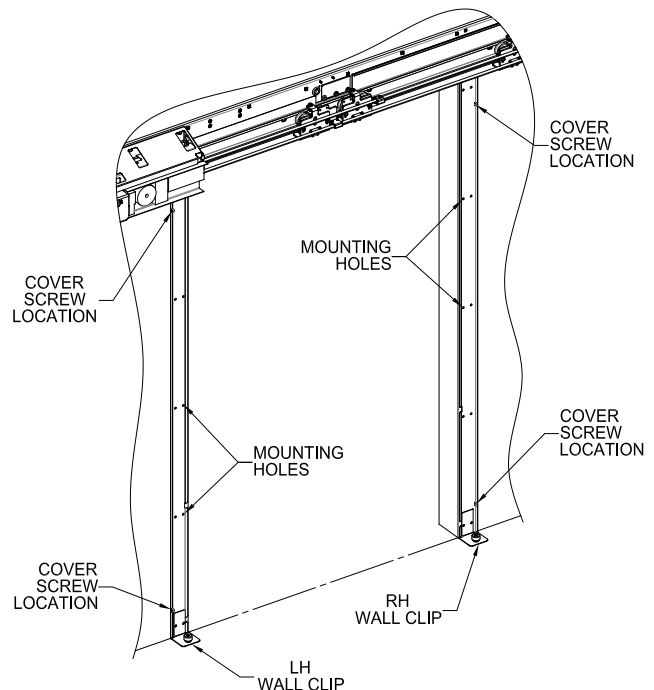

Figure 18: Positioning the Header
3. For a right hand slide, position the left edge of the header (w/o shroud) flush with the left edge of the lead edge face frame (Figure 18). For a left hand slide, position the right edge of the header (w/o shroud) flush with the right edge of the lead edge face frame.